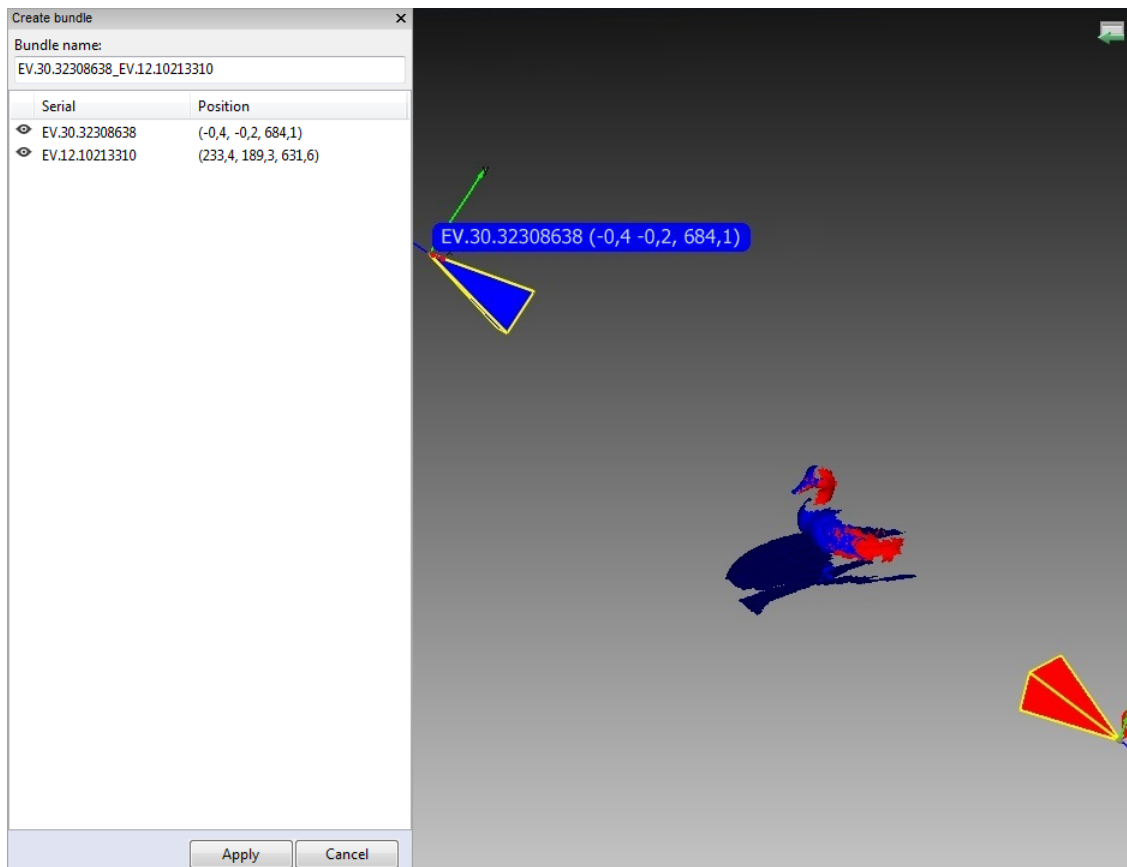

Figure 211: Bundle-creation window.
7. From the menu, select *File* → *Create bundle*. A warning message will appear if you forget to align the scans. Otherwise, the bundle-creation panel will appear (see Figure 211). The *3D View* window will show the selected scans, the position and viewing direction of the scanners (by means of an appropriately colored pyramid), the device ID, and the scanner coordinates. It will display a list of connected devices and corresponding information.